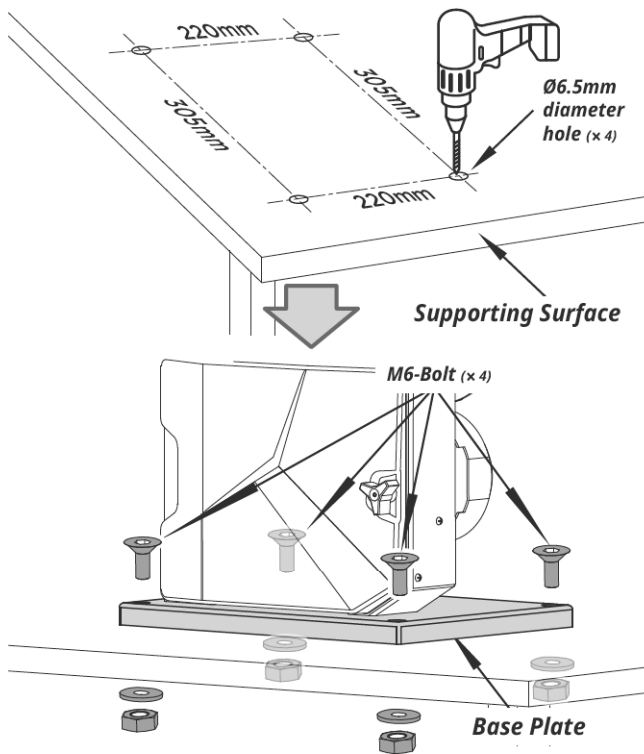

Figure 11
2. Put fixing bolts through the base plate and secure with nuts. (See Figure 11)